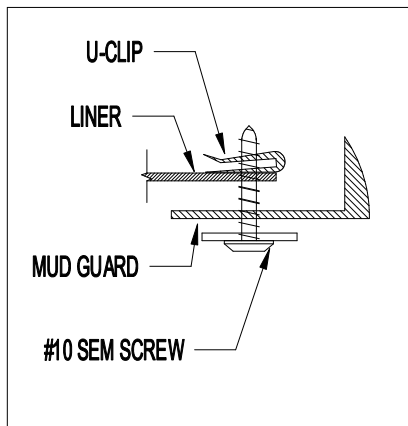

Figure 2
6. Install a #10 SEM screw through location D and into a U-clip on the backside of the liner (Figure 2).
7. Install a #10 SEM screw through location E and into a u-clip on the back side of the fender (Figure 2).